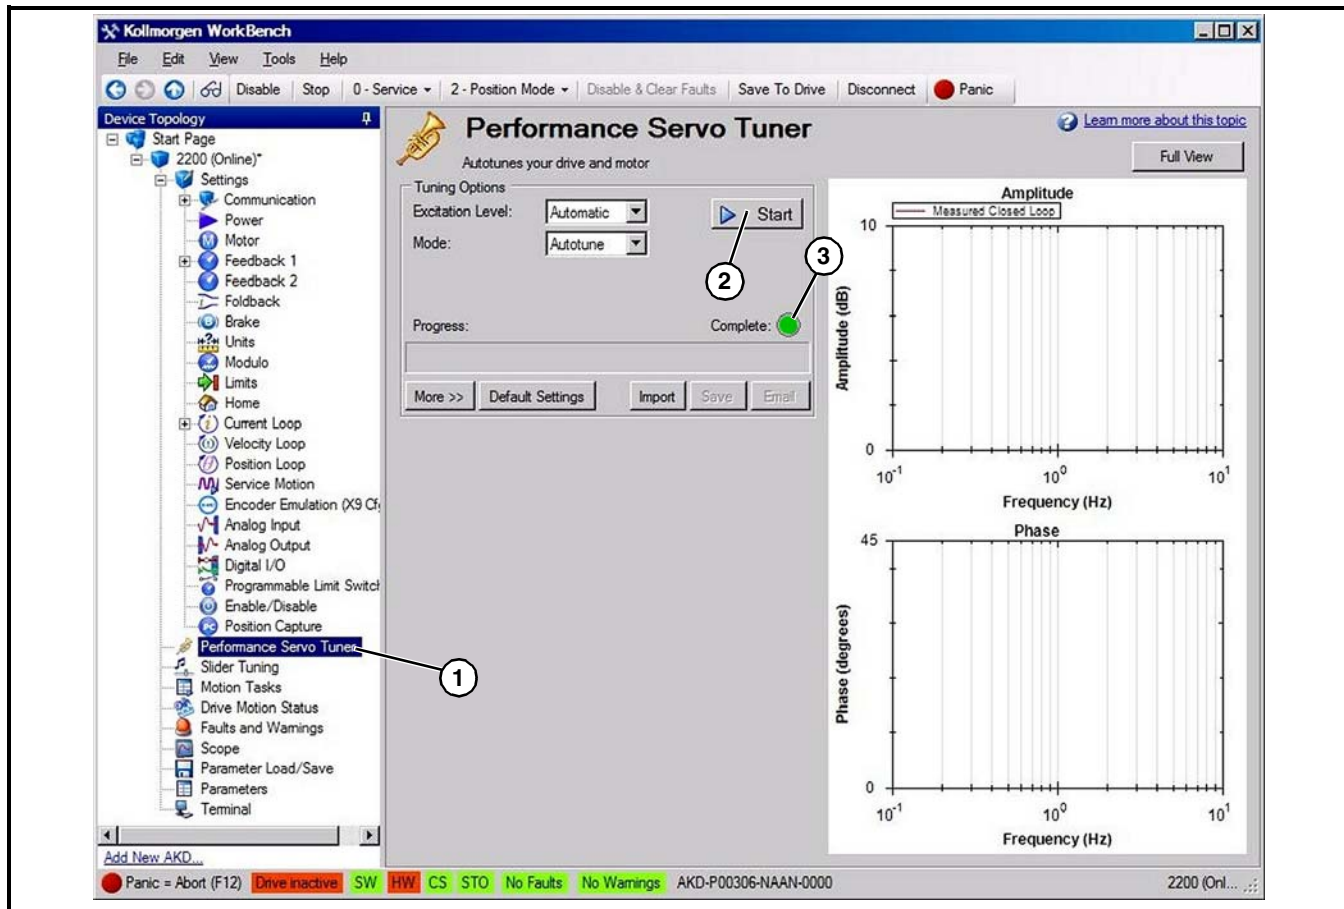

Figure 48
1. Select **Performance Servo Tuner** (Figure 48, item 1) from the Navigation Tree.
2. Click on start tab (Figure 48, item 2) to start the tuning process.
3. Once tuning is complete you will see a green light (Figure 48, item 3). Return the Position Error Limit to factory settings as noted above.